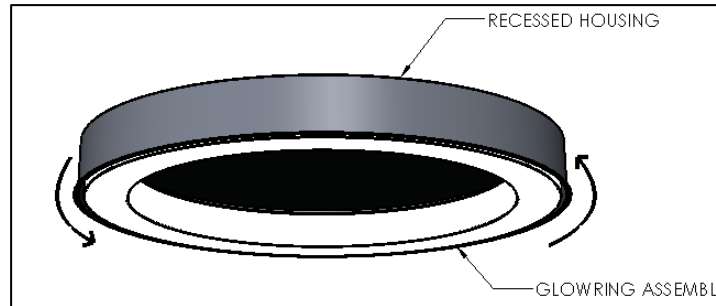

FIG. 7 – DISASSEMBLY OF GLOWRING ASSEMBLY FROM HOUSING
1. Unpackage fixture and separate GLOWRING ASSEMBLY from RECESSED HOUSING by rotating GLOWRING ASSEMBLY counterclockwise as shown in FIG.7.